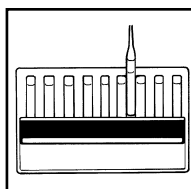

Figure 4
7. Hold the comparator in a nearly horizontal position while standing directly beneath a source of light. Place the ampoule between the color standards moving it from left to right along the comparator until the best color match is found (fig 4). If the color of the ampoule is between two color standards, a concentration estimate can be made.